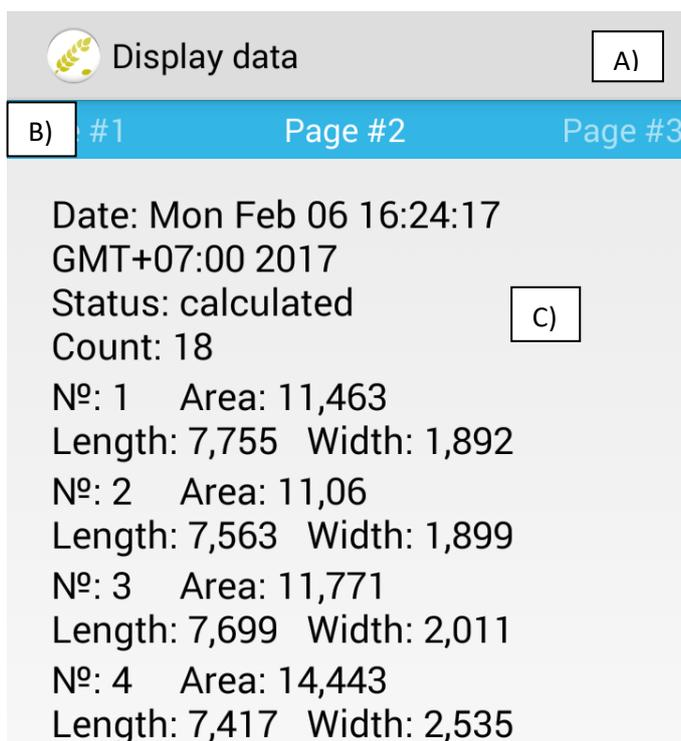

Figure 5. SeedCounter data viewer screen. A) Menu panel; B) Page number panel; C) Data display panel.
- 1) The screen will appear that display a summary of the measurement information (Fig 5). To scroll through the measurement slide the touchscreen horizontally. You can also switch the view page by touching the blue menu on the screen (Fig. 5, B)
- 2) To delete or export data click on the menu button (Fig 5, A).